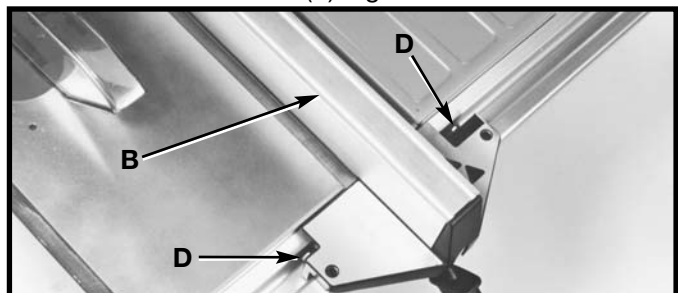
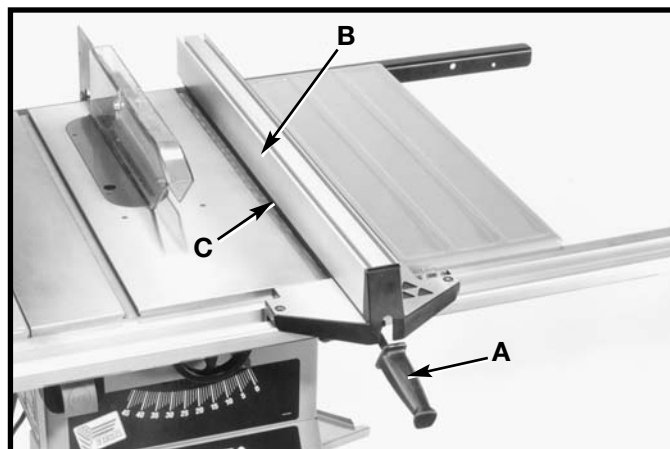
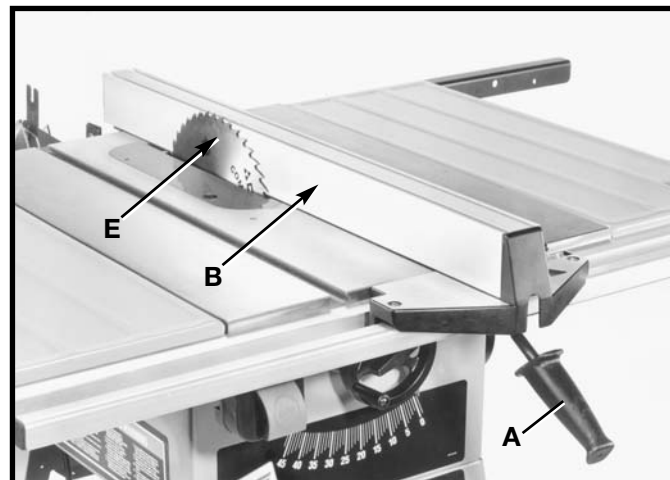
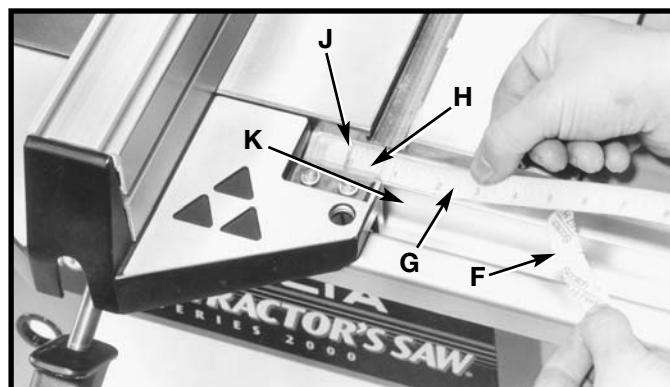

Fig. 52
Fig. 51
Fig. 53
Fig. 54
1. Raise lock handle (A) Fig. 51, and slide rip fence (B) against one edge of the miter gage slot (C) as shown. Clamp the fence onto the guide rail by pushing down on lock handle (A). The edge of the fence (B) Fig. 51, should be parallel to the edge of the miter gage slot. If an adjustment is necessary, **tighten or loosen either of two screws (D) Fig. 52**, as necessary until rip fence (B) is parallel to the miter gage slot and locks in place with minimal force on handle (A) Fig. 51.
2. Once the rip fence is aligned with the miter gage slot, raise the saw blade (E) to its highest position as shown in Fig. 53. Slide rip fence (B) against the saw blade (E) and lock the fence in that position by pushing down on handle (A).
3. Partially remove the backing (F) Fig. 54, from scale (G) as shown. Position scale under cursor (H) until "zero" mark on the scale (G) is directly under the cursor line (J). Lightly press down on scale (G) so it adheres to guide rail (K).
1. To move the rip fence, raise the lock handle (A) Fig. 51, as far as it will go and move the fence to the desired position on the table. When the lock handle (A) Fig. 53, is pushed down to approximately 45 degrees, clamping action on the rip fence (B) should be adequate. However, if the clamping action is too loose or too tight, an adjustment can be made by **equally tightening or loosening two screws (D) Fig. 52** as necessary. **NOTE:** It will be necessary to remove the cursor (J) Fig. 54, to make this adjustment